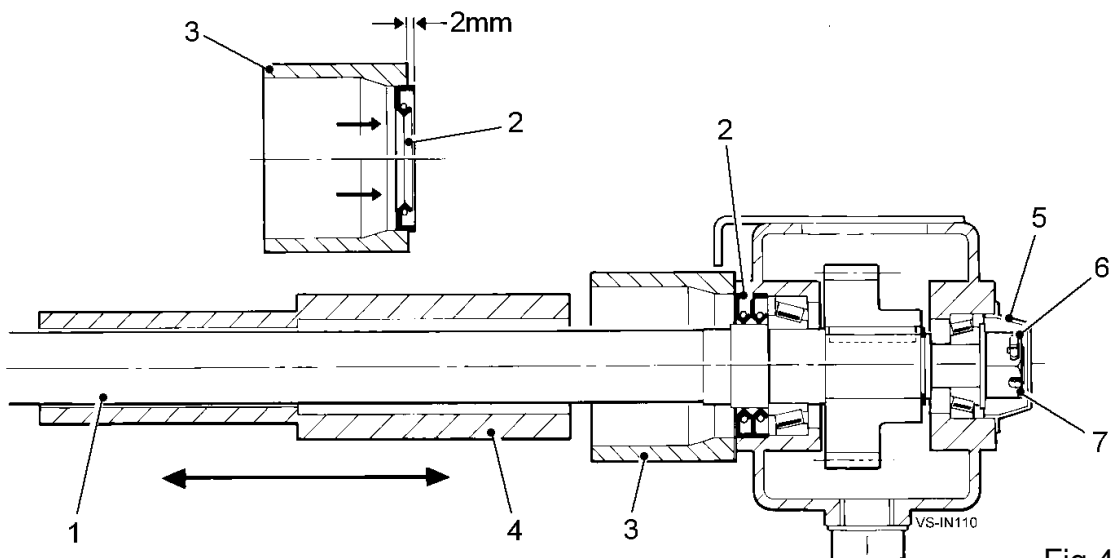

Fig 41
The cleaner unit roller shafts (item 1, fig 41) are each fitted with an oil seal (item 2, fig 41) which is press-fitted into the gearbox casing. The seals prevent loss of oil from the gearbox and also prevent the ingress of dirt. If leakage is apparent, the seals can be replaced in situ by using the guide sleeve and slide hammer service kit.
2. Prise out the worn seal (item 2, fig 41) taking care not to damage the seal aperture in the gearbox. Clean the seal aperture and the surrounding face of the gearbox.
4. Push the new seal into the compression ring (item 3, fig 41) until the seal protrudes approximately 1-2mm beyond the ring face (see fig 41). Slide the compression ring complete with seal over the roller shaft (item 1, fig 41) and locate the seal into the aperture.
5. Locate the slide hammer (item 4, fig 41) over the roller shaft and, holding the compression ring and seal firmly against the gearbox face, bump the seal into the gearbox. If required, a second seal can be fitted behind the first to give additional backup.
1. Clean the loose soil from around the gearbox face and prise out the end cap (item 5, fig 41).
2. Remove the split pin (item 6, fig 41) from the castellated nut (item 7, fig 41) and tighten the nut to a torque of 22 lb/ft.
3. Check the roller shaft (item 1, fig 41) again for free play.
4. Refit the split pin (item 6, fig 41) in the next clear hole, tightening the nut a maximum of one flat if needed.